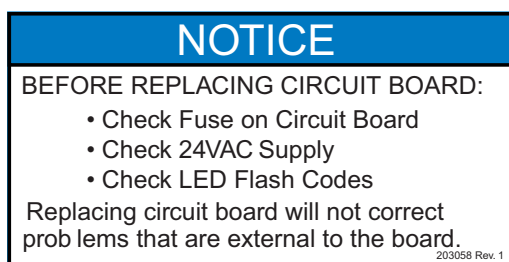

Figure 49. NOTICE Label
7. Adhere NOTICE label (12, see Figure 49) below wiring diagram label installed in step 6.